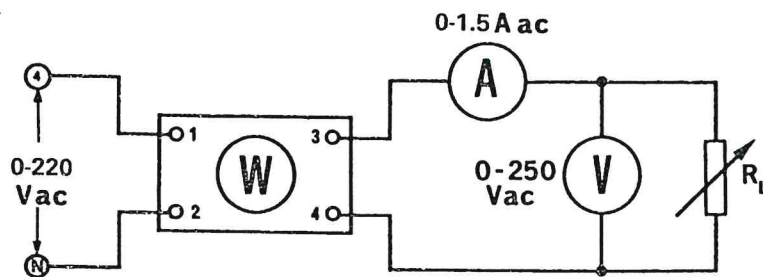
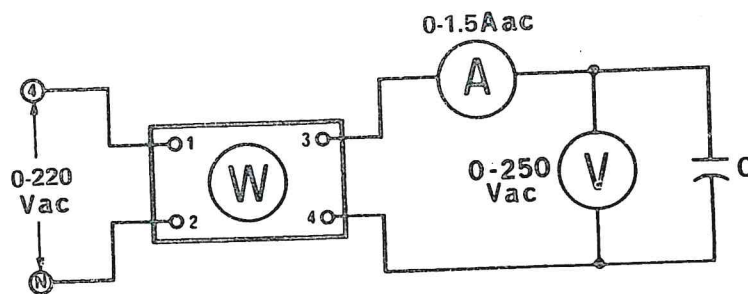
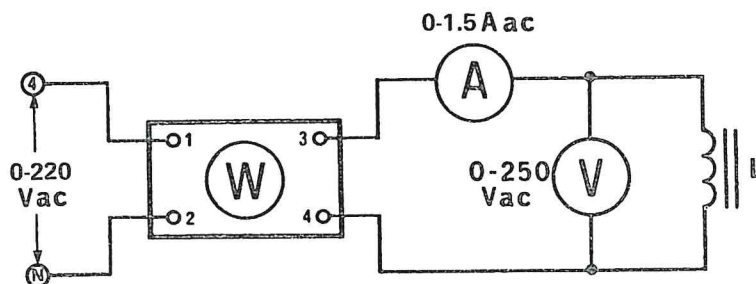

Fig. 15-2
Fig. 15-4
Fig. 15-5
□ 2. Using your EMS Resistance, Wattmeter, AC Metering and Power Supply Modules, connect the circuit shown in Fig. 15-2. Set the load resistance to 210Ω (all switches closed, all sections in parallel).
- ☐ 6. a) Reconnect your circuit as shown in Fig. 15-2.
- ☐ b) Connect the circuit shown in Fig. 15-4. Connect each of the three capacitor sections in parallel and close ("up" position) all of the switches. This will provide the maximum capacitance available from the module. Note that this circuit is identical to the circuit of Fig. 15-2 except that the resistance load has now been replaced by a capacitance load.
- ☐ b) Connect the circuit shown in Fig. 15-5. Connect each of the three inductor sections in parallel and close ("up" position) all of the switches. This will provide the minimum inductance available from the module. Note that the circuit is identical to the circuit of Fig. 15-2 except that the resistance load has now been replaced by an inductance load.